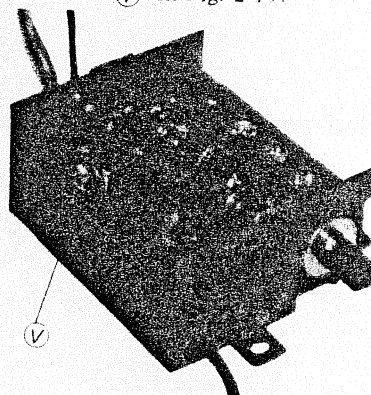

Fig. 2-19
5. Unsolder the braided wire at the i-f transformer case marked $\textcircled{V}$ in Fig. 2-19.